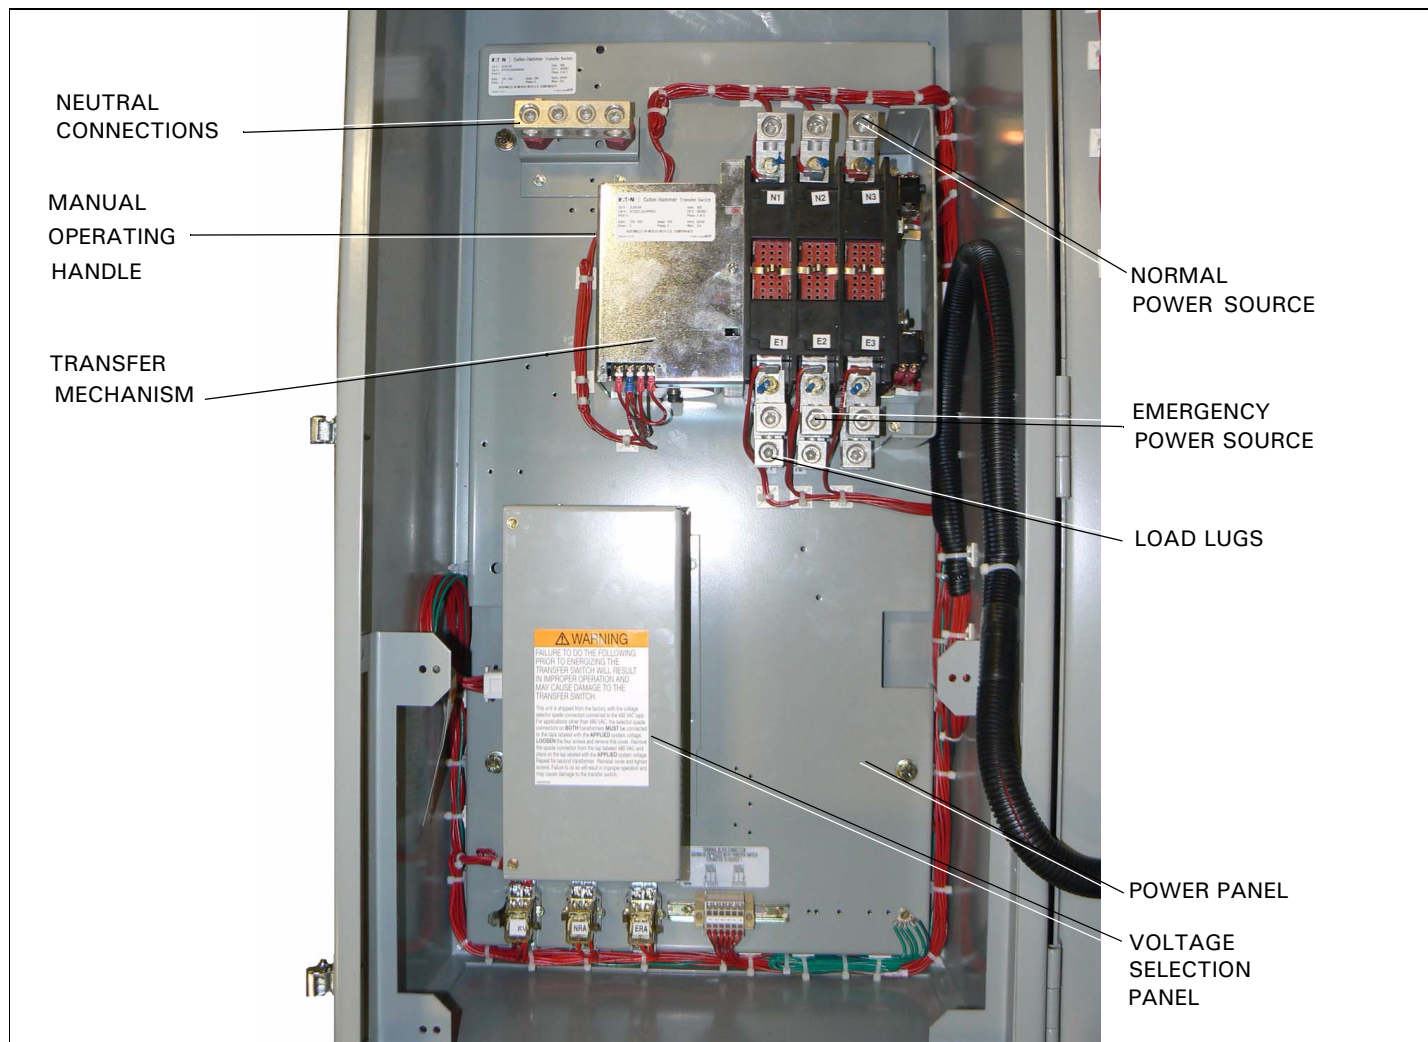

Figure 21. 100A, 3-Pole, ATS Interior Components.
For 4 pole transfer switches, connect the load cables (TN), Source 1 or utility supply (NN), and Source 2 or generator supply (EN). Refer to Figure 21 for the location of all parts discussed in this document.
*Load cables MUST be connected and torqued BEFORE installing the SUPPLY cables (Figures 21).